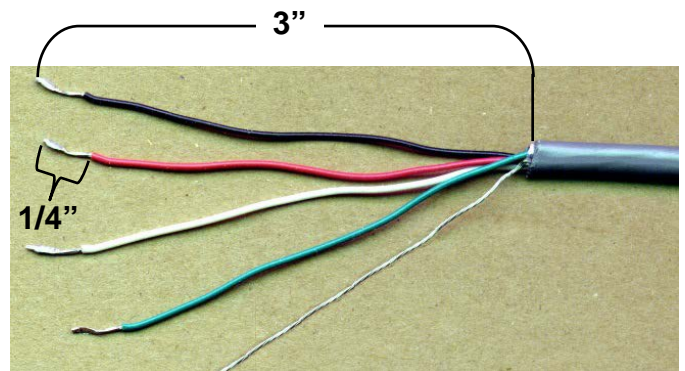

Figure No. 14
4. Referring to Figure No. 14, remove 3 inches of the outer insulation jacket of the cable.